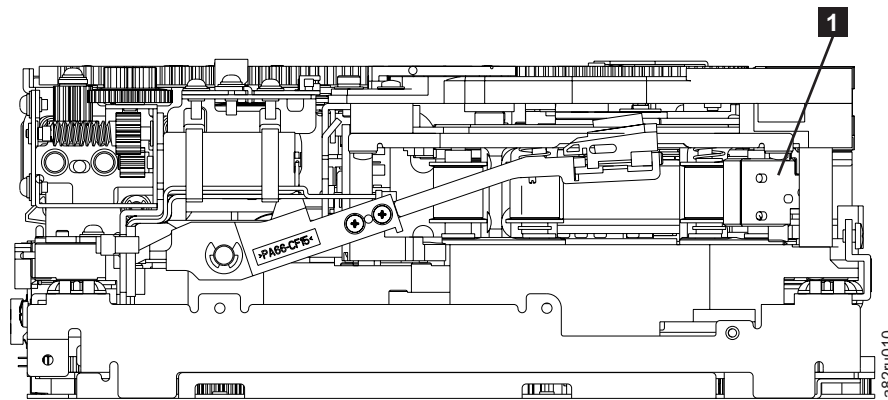

Figure 8-90. Leader Block Assembly (LBA)
10. Rotate the threader motor worm gear (**4** in Figure 8-89 on page 8-90) to turn the threader mechanism gear (**6** in Figure 8-89 on page 8-90) counterclockwise. This moves the LBA out of the cartridge and past the read/write head. Stop this rotation when the LBA is near the tape guide roller nearest the rear of the drive shown as **1** Figure 8-90.